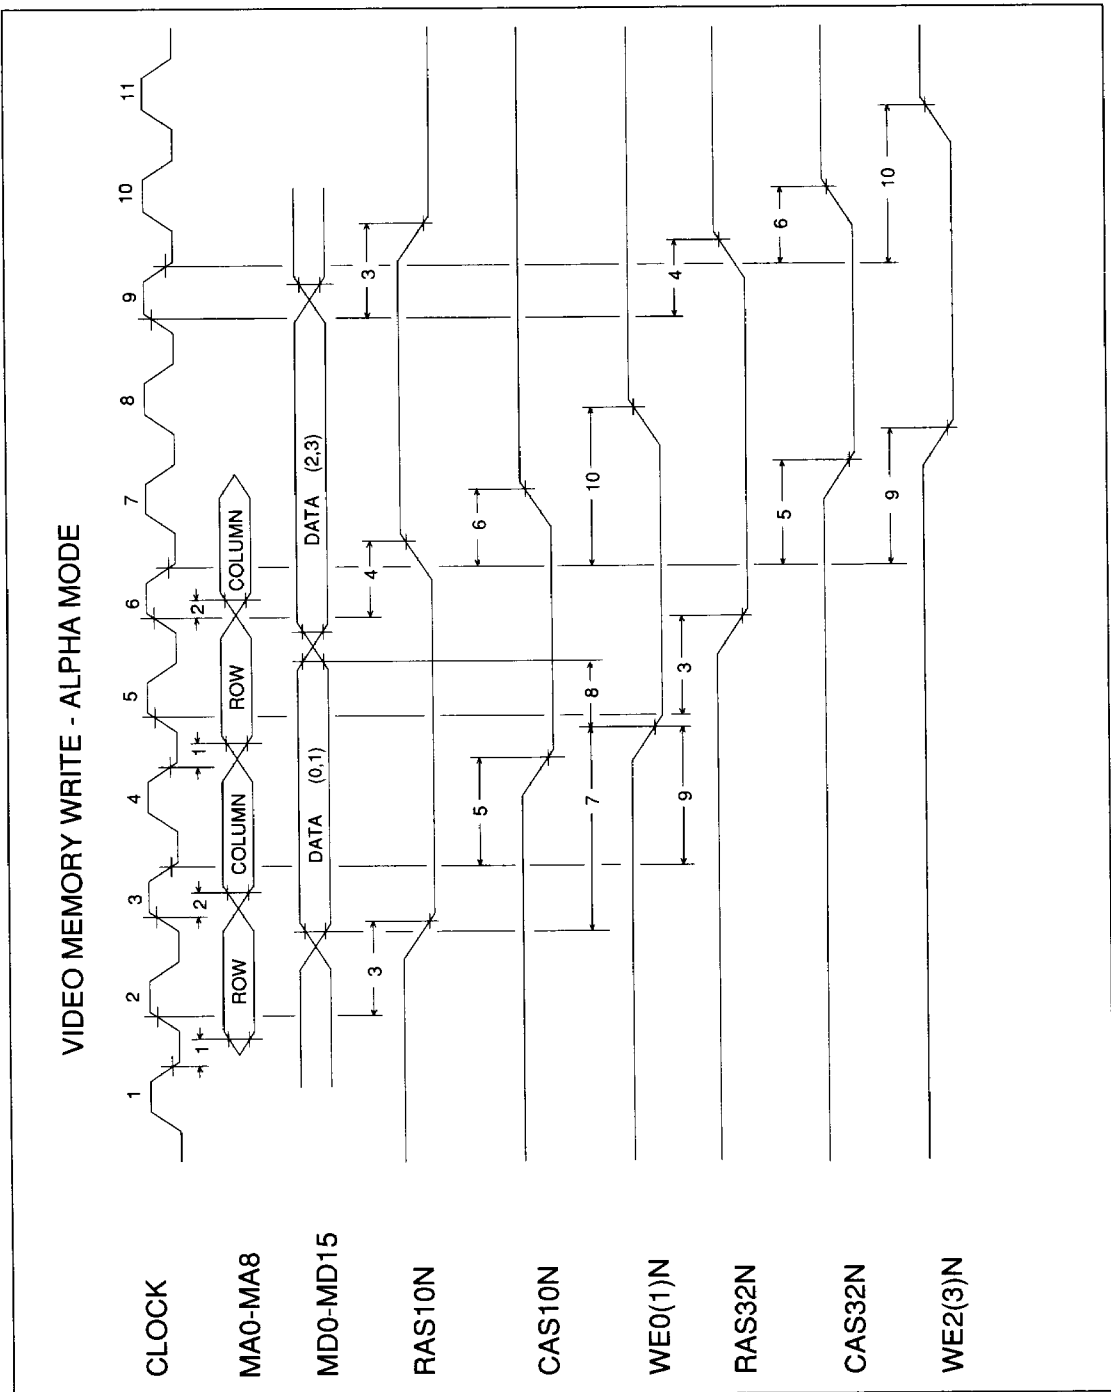

Figure 12. Video Memory Write - Alpha Mode
6.3 VIDEO MEMORY READ - ALPHA MODE TIMING DIAGRAM (See Figure 12)